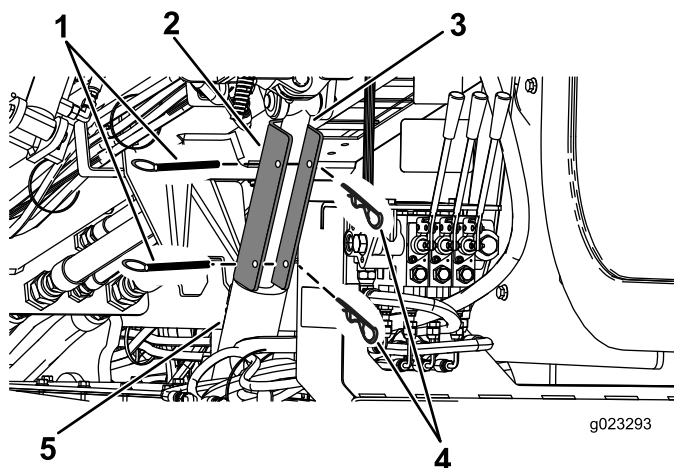

Figure 62
4. Position the cylinder lock over the cylinder rod (Figure 62).
5. Secure the cylinder lock with the cotter pin and clevis pin (Figure 62).
4. Remove the cotter pin and the clevis pin that secure the cylinder lock (Figure 62).